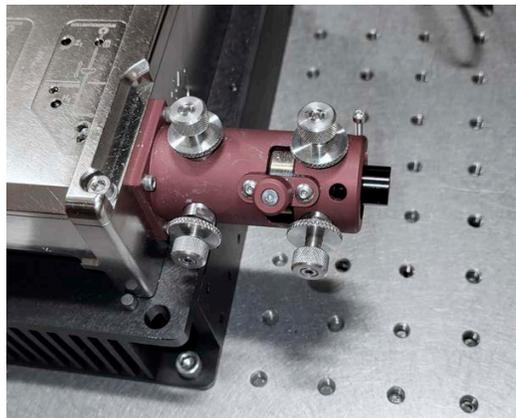

Figure 8-36. Adjustment Tube Fully Inserted, Beveled Aperture End in First
5. Make sure that the tube is fully inserted, and then release the button. Refer to Figure 8-36.